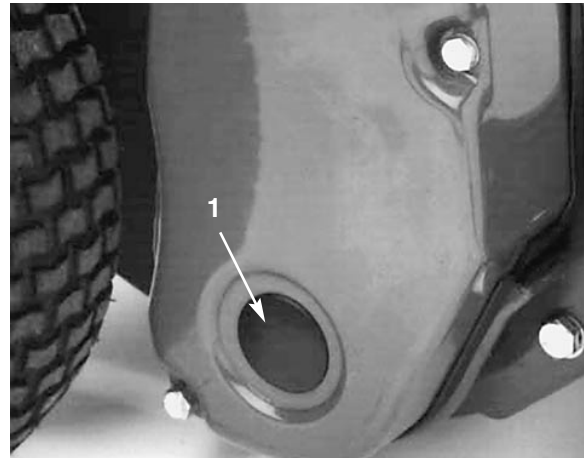

Figure 40
1. Remove plug in right reel drive cover (Fig. 40)